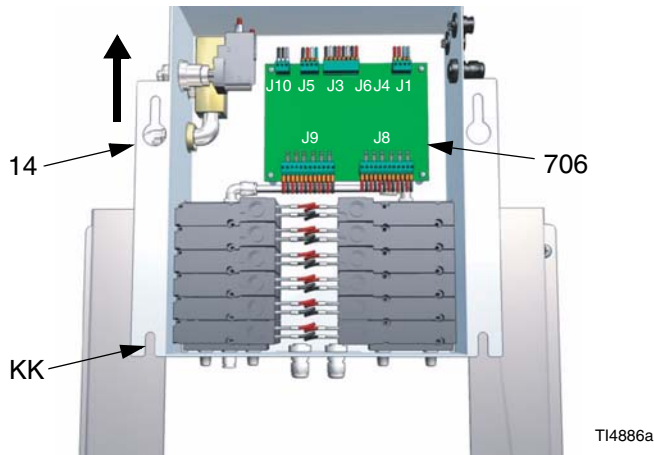
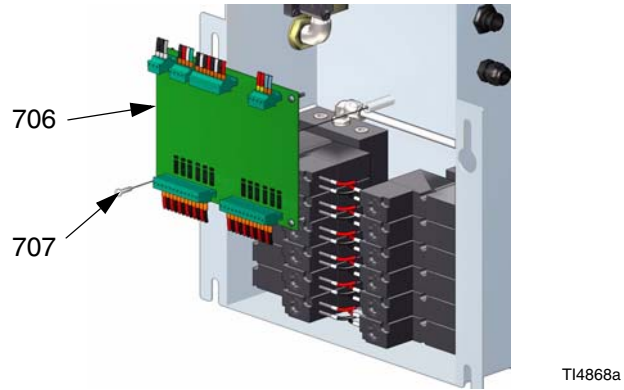
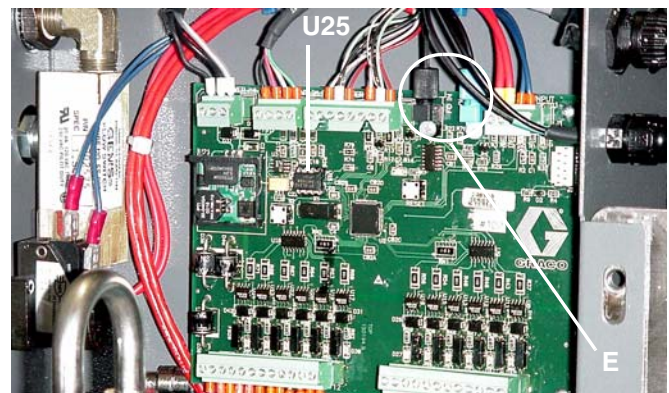

FIG. 14
FIG. 15
FIG. 16
5. Slide the panel (14) until its bottom slots (KK) align with the top screw holes and secure the box in place with the 2 screws. FIG. 14.
2. Disconnect fiber optic wires and all cables (J1, J3, J4, J5, J6, J8, J9, J10) from control board (706). FIG. 14.
3. **Fluid Panels with Color Change:** Carefully remove color change EEPROM (U25) from the control board with a chip puller. FIG. 16. Save it to install in the new board.
4. Remove 4 screws (707). Remove control board (706). FIG. 15.
5. Install new control board (706) with 4 screws (707).
6. Connect cables to control board (706). FIG. 14. Insert fiber optic cable connectors (J4, J6) into board connectors (E), matching blue with blue, black with black, and hand-tighten connectors (E). FIG. 16.